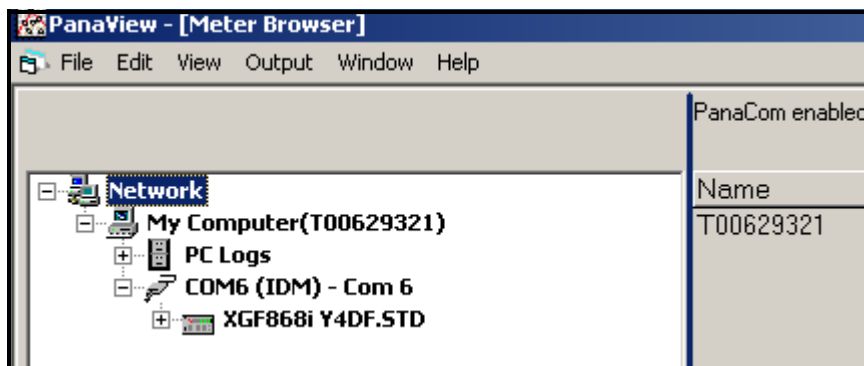

Figure 17: The Text Display Window
2. Using the *Window* menu, as described in the *PanaView User's Manual*, arrange the open windows in the desired format. For this discussion, Figure 17 shows the *Text Display* window in its maximized (full-screen) size.
5. Before actual data values can be displayed in the text pane, activate one of the following data collection modes (see Figure 17 on page 48):